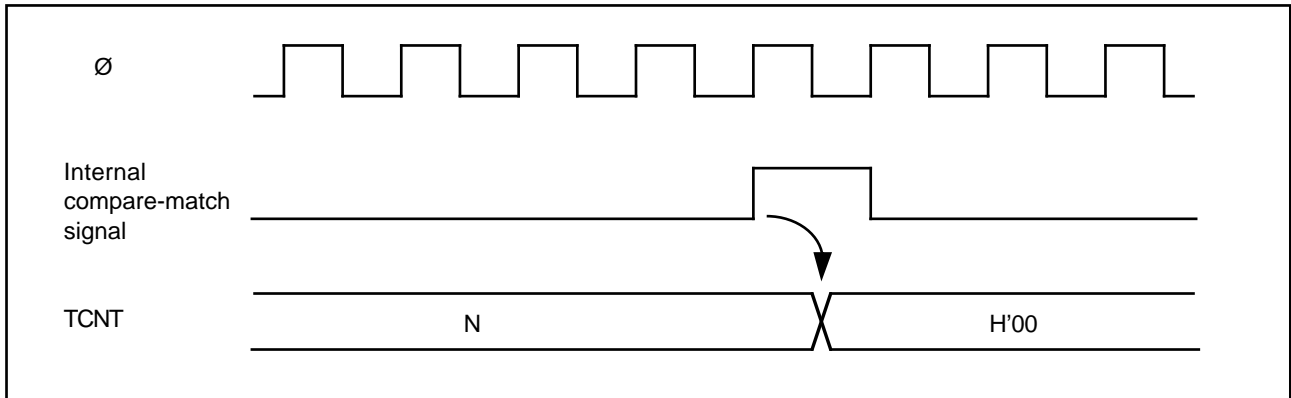

Figure 7-8. Timing of Compare-Match Clear
(4) Timing of Compare-Match Clear: Depending on the CCLR1 and CCLR0 bits in the TCR, the timer counter can be cleared when compare-match A or B occurs. Figure 7-8 shows the timing of this operation.